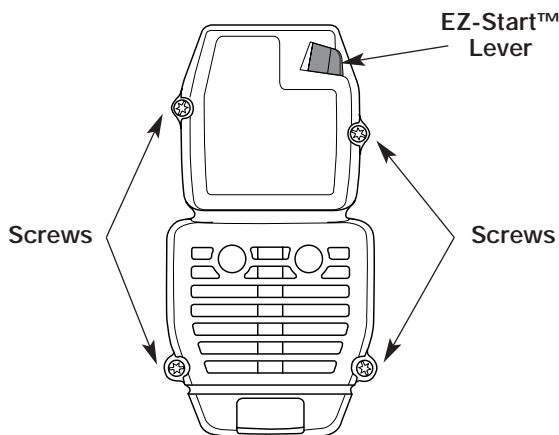

Figure 26
1. Remove the four (4) screws securing the air filter/muffler cover. See Figure 26. Use a flat blade or T20 Torx bit screwdriver.
- Insert the four (4) screws into the holes in the air filter/muffler cover and tighten. See Figure 26. **Do not over tighten.**